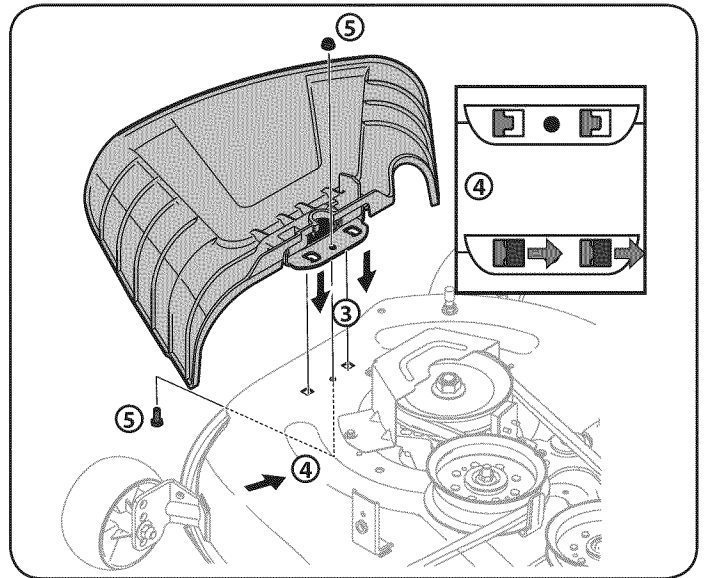

Figure 4
3. Place the chute deflector on the deck, be sure to insert the tabs on the chute deflector into the holes on the deck. See Figure 4.
4. When the tabs are installed in the deck, slide the chute deflector toward the rear of the tractor until the bolt hole in the chute deflector aligns with the hole in the deck. See Figure 4.
5. Secure the chute deflector in place with the flange lock nut and hex screw removed in step 2. Tighten to 102-124 in.-lbs. See Figure 4.